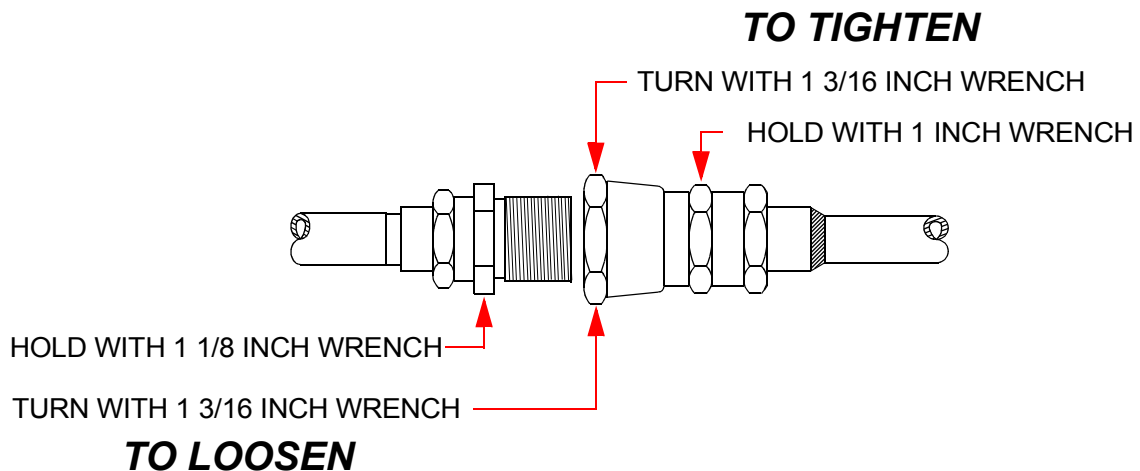
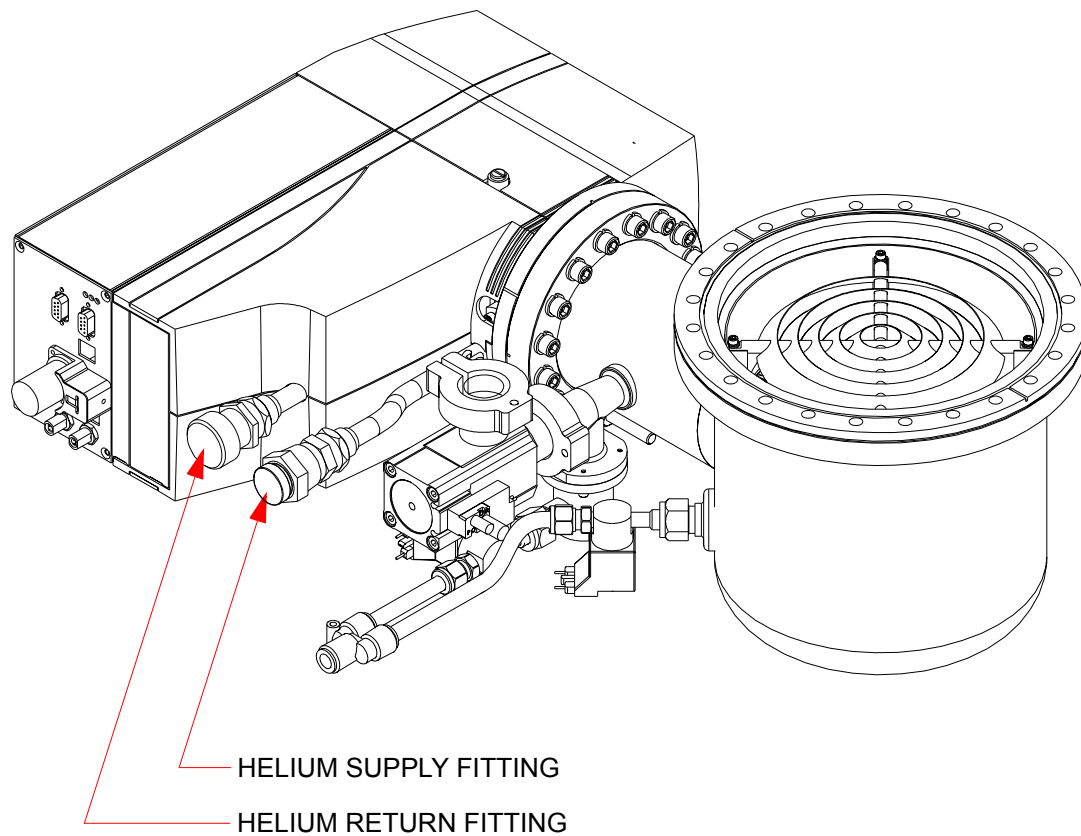

Figure 2-6: Connecting/Disconnecting Helium Flex Line Self Sealing Couplings
Figure 2-7: Helium Supply and Return Fitting Connections
Make sure the helium flex lines are connected and disconnected from the On-Board IS 1000 Compressor using the following procedure and as shown in Figure 2-6. Failure to follow this procedure could damage connector O-ring seals or cause a helium circuit leak.
NOTE: Refer to Figure 2-6 and Figure 2-7 during this procedure.
2. Connect the Gas Return line to the GAS RETURN connector on the rear of the On-Board *IS* 1000 Compressor and then to the GAS RETURN connector on the On-Board *IS* Cryopump or helium manifold. Using two wrenches as shown in Figure 2-6, tighten the connector.
3. Connect the Gas Supply line to the GAS SUPPLY connector on the rear of the On-Board *IS* 1000 Compressor and then to the GAS SUPPLY connector on the On-Board *IS* Cryopump or helium manifold. Using two wrenches as shown in Figure 2-6, tighten the connector.
1. Using two wrenches as shown in Figure 2-6, disconnect the two self sealing coupling connectors quickly to minimize helium leakage.